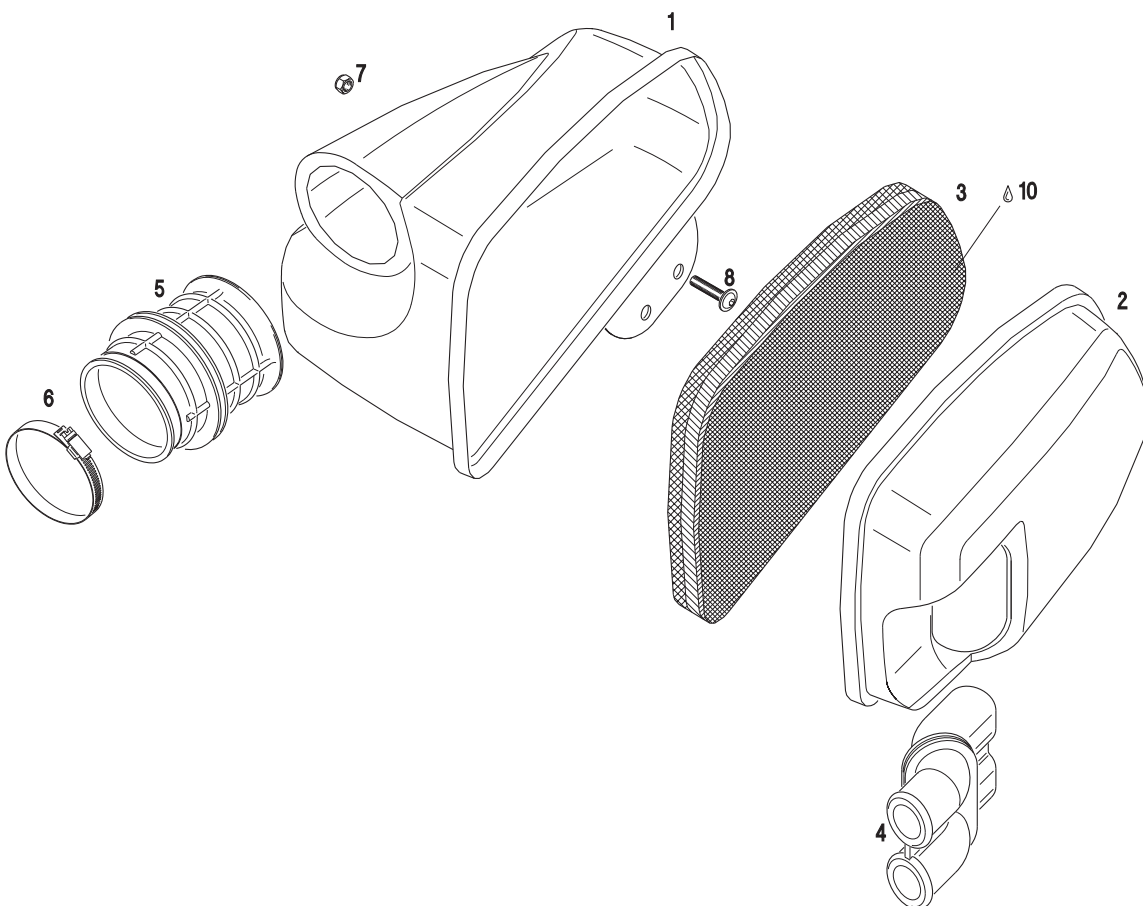

Fig. 12
- ➔ Install rubber intake pipe (4) in a vertical position in the bottom half (2) of intake silencer so that the rounded intake openings point outwards.
- ➔ Fit the carburetor socket (5) into the inner side half of silencer (1) so that the arrow on the socket points towards the carburetor.
- ➔ Apply "Airfilter cleaning kit" ROTAX PN.: 297 160 (10) on the filter mat (3) and squeeze out surplus oil afterwards.
- ➔ Assemble the silencer components as shown in fig. 12 and make sure that the locking is interlocked properly
- ➔ Attach the intake silencer with the supplied hose clamps (6) on the carburetor.
- ◆ **Note:** The carburettor socket (5) is asymmetrical and can be turned so that the best possible position between carburettor and intake silencer can be achieved.